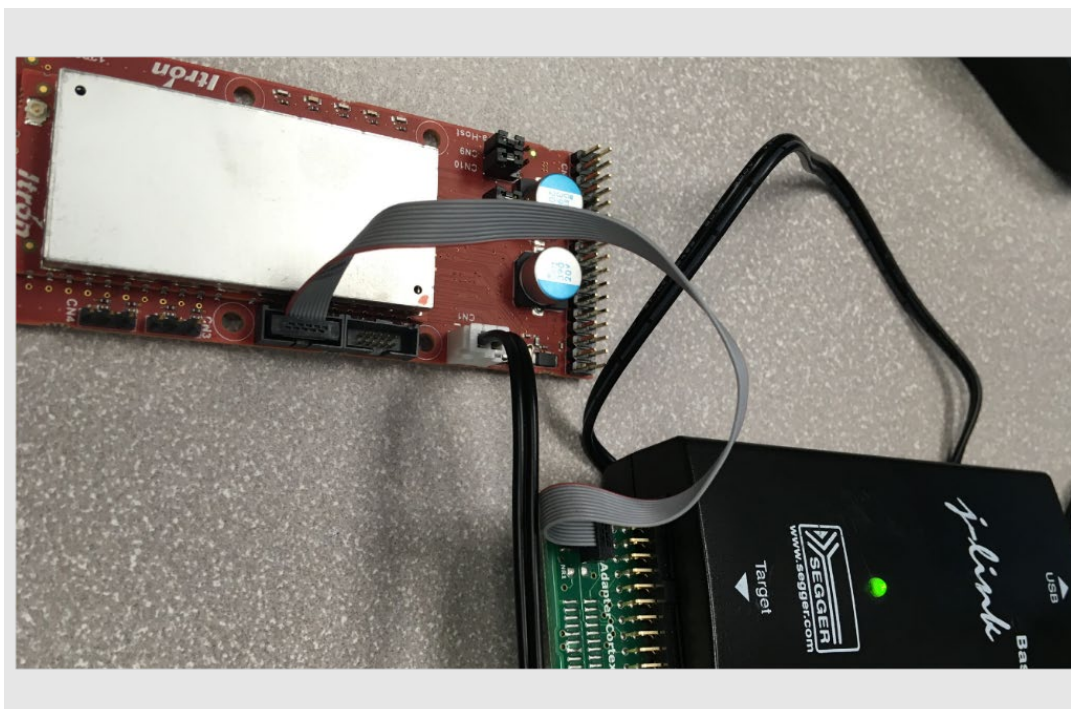

Figure 7: Module on host board and connected to J-Link
3. Connect the JLINK to the JTAG connector on the host as shown in Figure 7 and connect the JLINK USB to the laptop.